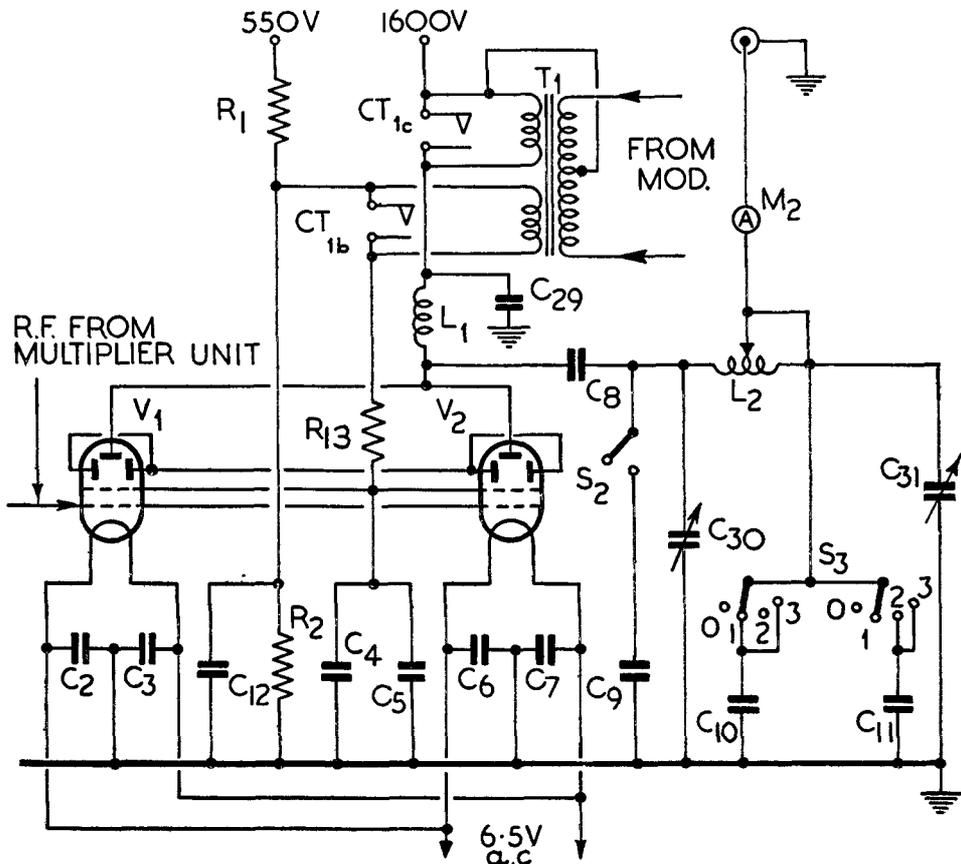

Fig. 7. Simplified circuit of power amplifier
**31.** The power amplifier stage is shown in simplified form in *fig. 7*. Valves V1 and V2 are beam tetrodes, connected in parallel.
Their tuned anode circuit consists of the variable inductance L2 and the variable condensers C30 and C31. The fixed condenser C9 is connected in parallel with C30 by the RANGE switch S2, on the 1.5—2Mc/s range. Adjustment of aerial coupling is provided by the variable condenser C31, and the fixed condensers C10, C11 (selected by the COUPLING switch S3). The switch has four positions, labelled 0 to 3 as shown in *fig. 7*. Aerial coupling is reduced as the capacity from the aerial end of L2 to earth is increased, the couplings being minimum on switch position 3 when C10, C11 and C31 are all in parallel. Meter M2 reads the RF output current.